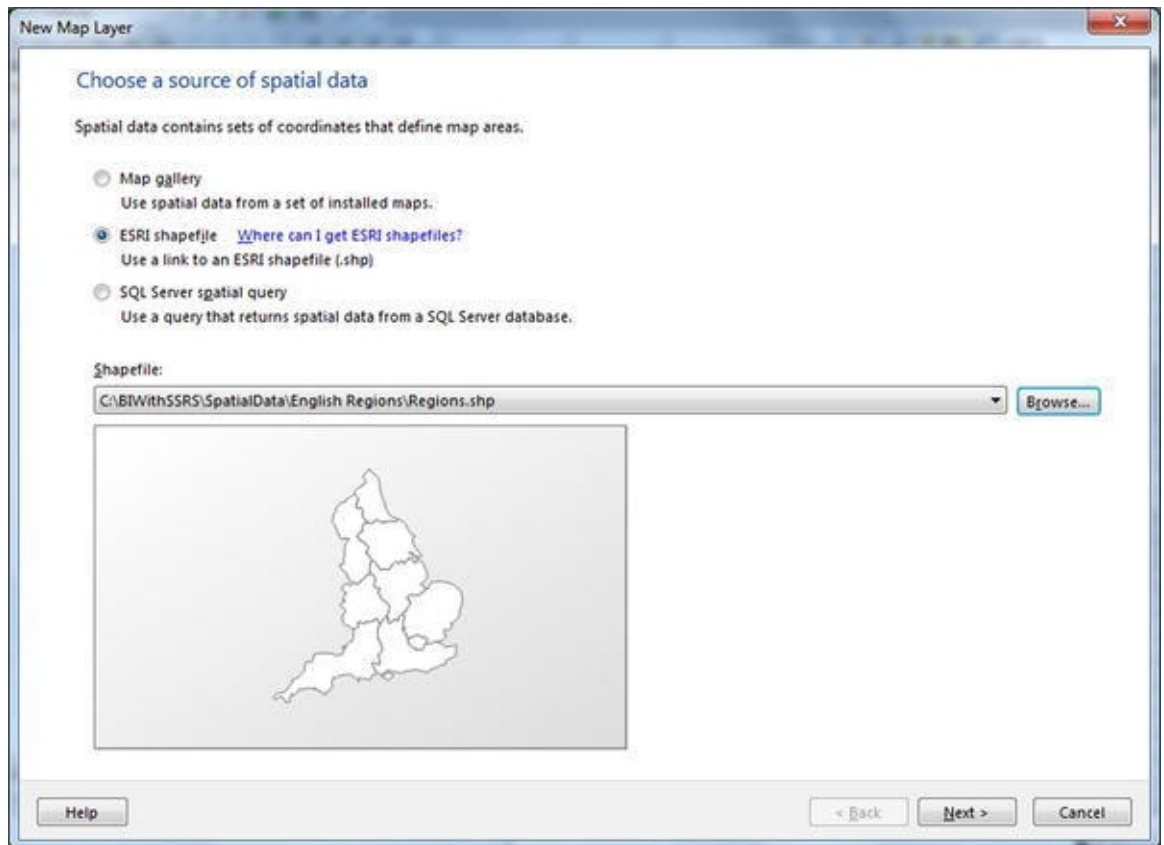

Figure 5-18. Selecting a shapefile as the source for spatial data
6. Browse for the source file `(C:\BIWithSSRS\SpatialData\EnglishRegions\Regions.shp` in this example). The dialog will look like Figure 5-18.